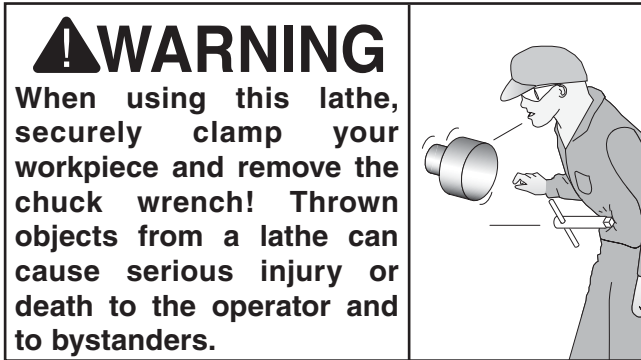

Figure 23. Cam-lock in the locked position.
6. Turn a camlock with the chuck wrench until the cam mark falls between the "V" marks as shown in **Figure 23**.
—If the cam lock mark stops outside of the "V" marks, remove the chuck and adjust the cam stud height of the offending studs one full turn up or down (see **Figure 23**).